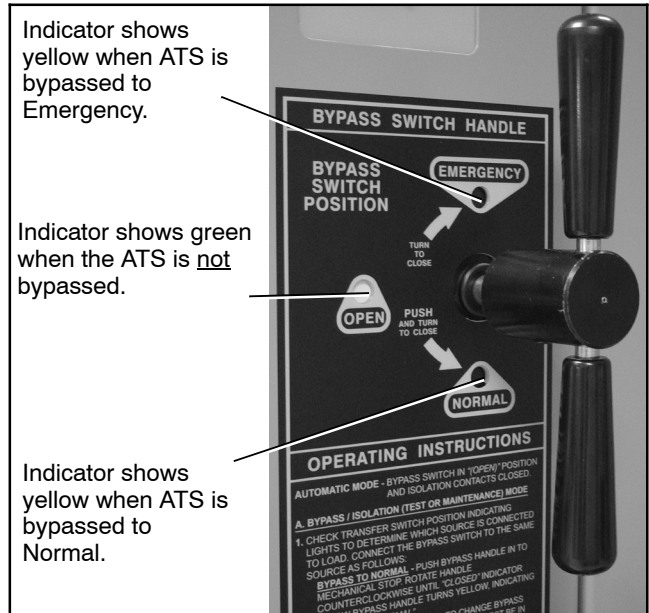
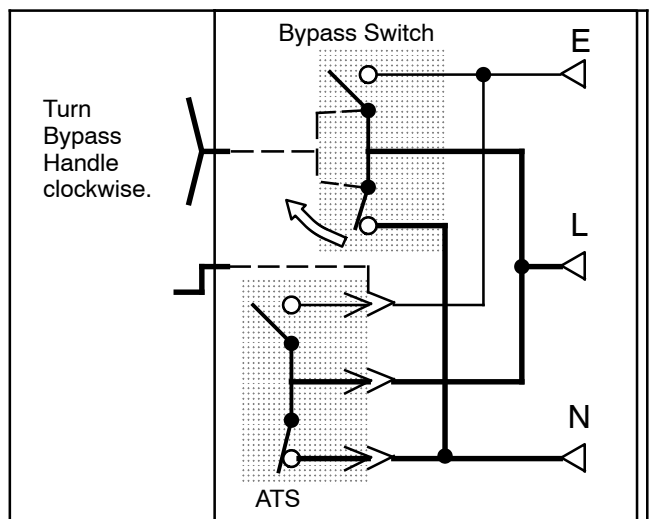

Figure 7-49 Bypass Handle and Position Indicators
Figure 7-50 Opening Bypass to Normal
This procedure explains how to return the bypass switch handle to the OPEN position. The bypass handle must be in the CLOSED position (yellow indicator on NORMAL or EMERGENCY) and the isolation handle must be in the CONN position (window). See Figure 7-49, Figure 7-50, and Figure 7-51.
1. Observe which bypass switch position indicator is yellow (NORMAL or EMERGENCY) at the bypass switch handle. This indicates the source connected to the load. See Figure 7-49.
Turn the bypass handle clockwise until the bypass switch position shows OPEN (green window indicator). See Figure 7-49. The Bypassed to Normal light should go off and the Not In Automatic light should go off. The automatic transfer and bypass/isolation switch should be left in this position.
Turn the bypass handle counterclockwise until the bypass switch position shows OPEN (green window indicator). See Figure 7-49. The Bypassed to Emergency light should go off and the Not In Automatic light should go off. The automatic transfer and bypass/isolation switch should be left in this position.